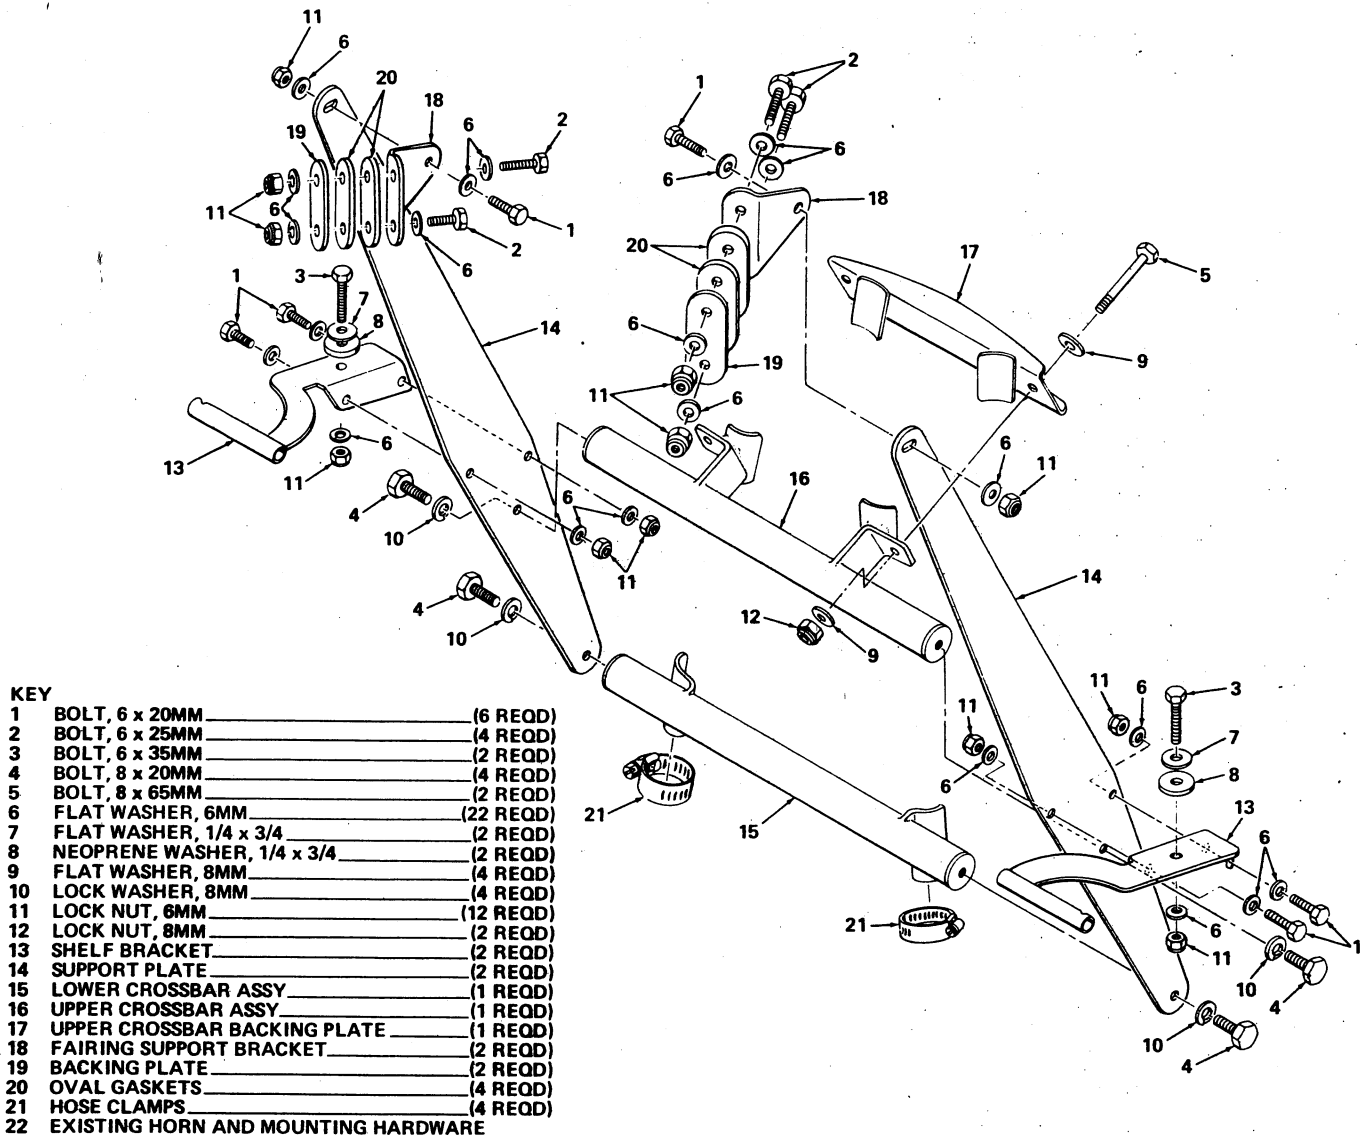

FIGURE 4-C-1
- 4-C-3. Assemble mounting bracket using figure 4-C-1 as a guide. Do not assemble upper crossbar backing plate at this time. Tighten all bolts securely, except leave bolts (4) loose so that the upper crossbar and lower crossbar can be adjusted to fit the motorcycle frame.